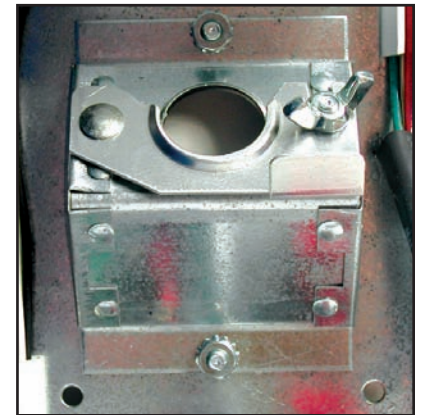

Figure 14
- ii. Install the angled bracket and secure to the unit base with the hex nuts provided. (See Figure 14)